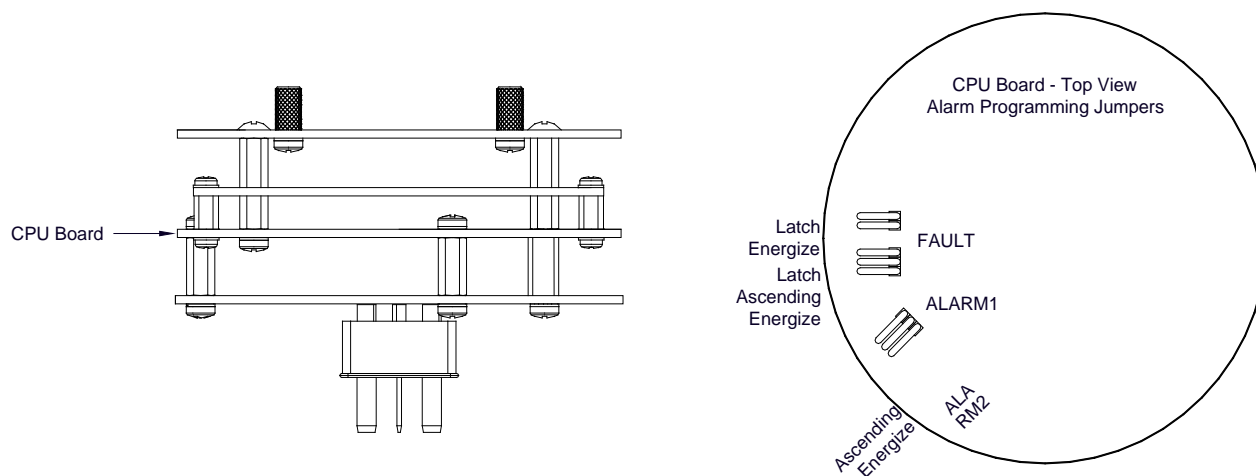

Figure 9 Control Circuit
- e) Program the alarms via the gold plated jumper tab positions located on the CPU board (see Figure 9). Alarm 1 and Alarm 2 have three jumper programmable functions: latching/non-latching relays, normally energized/normally de-energized relays, and ascending/descending alarm set points.